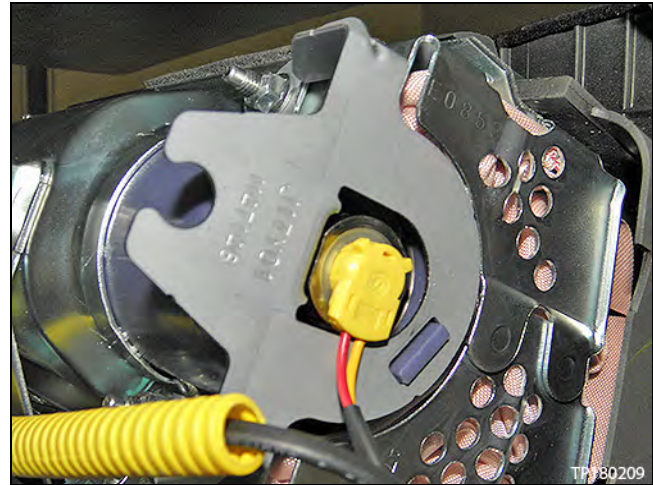

Figure 42
- Refer to Figures 42, 43, and 44.